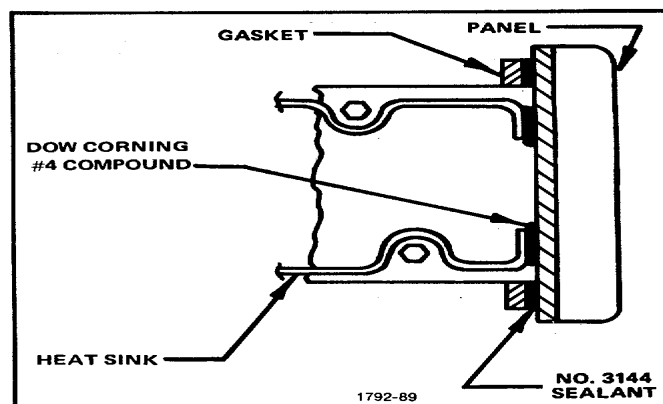

Figure 5-36. Application of dielectric type compound.
3. Apply a film of Dow Corning No. 4. Compound to the mating surfaces of the heat sinks and the Panel and join as shown in Fig. 5-36.
5. Apply a bead of G-661 silicone grease on and around the gasket and attach it to the Panel as shown in Fig. 5-36.